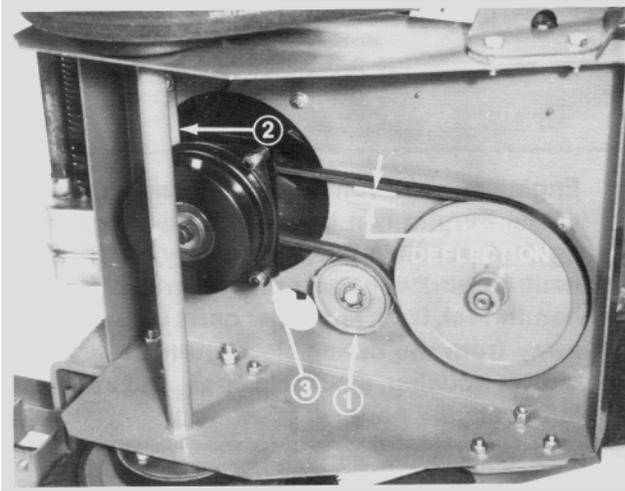

Figure 21
1. Loosen capscrew and flange locknut securing idler pulley to frame (Fig. 21). Slide pulley outward relieving belt tension.
3. Remove left front engine mounting bolt securing clutch retainer to frame (Fig. 21). Unhook retainer from clutch and remove retainer.
4. Remove belt from drive pulley and clutch (Fig. 21).
8. Position and secure idler pulley to frame so belt deflection is no more than 11/64" when 5–1/2 lb of force is applied to mid span of long leg of belt (Fig. 21).
1. To adjust clutch, tighten or loosen locknuts on flange studs (Fig. 21).